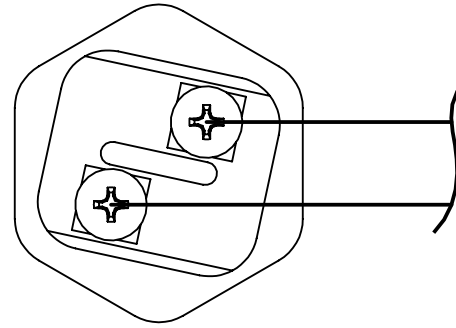

Figure 12-1: Element Connections
7. Remove element wires one element at a time. See Figure 12-1.